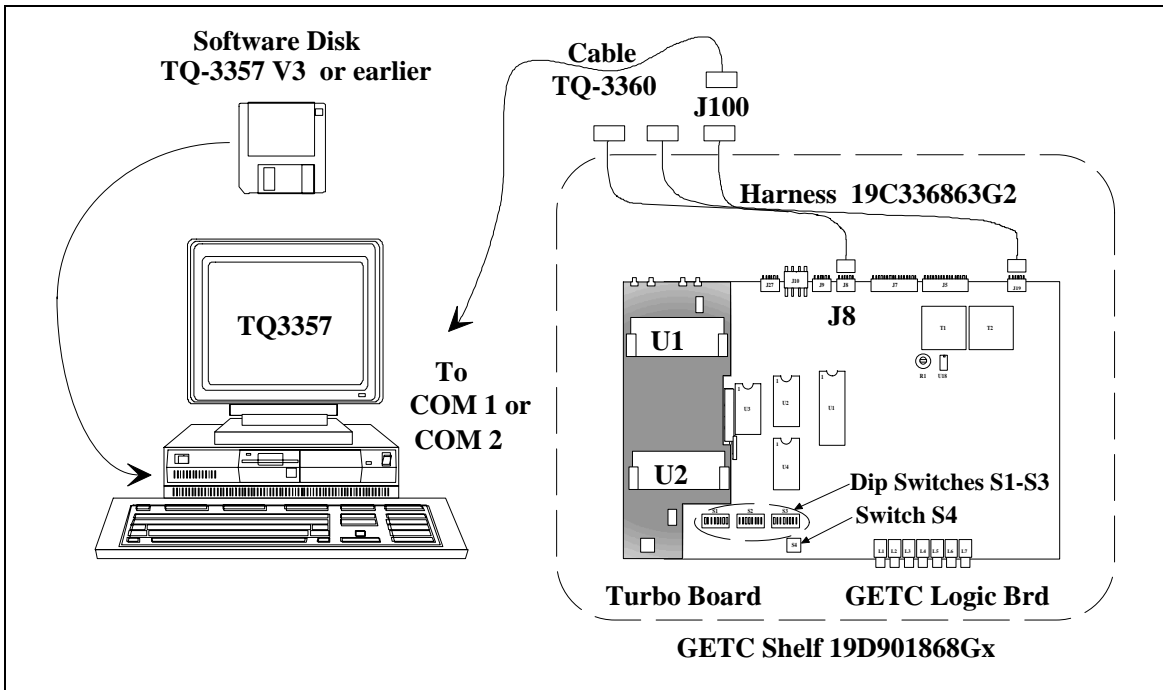

Figure 20 - System Hook-Up Using J100
1. Connect one end of the serial programming cable (TQ-3360) to the computer. Connect the other end of the serial cable to the GETC Shelf connector J100, see Figure 20.